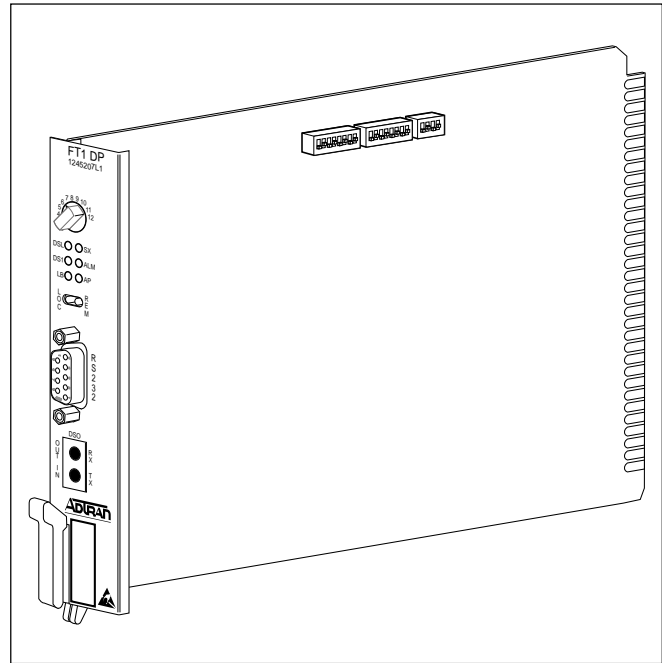

Figure 1. ADTRAN FT1 DP for Nortel DE-4E Shelf
This practice serves as an Installation and Maintenance guide for the ADTRAN Fractional T1 Dataport (FT1 DP). The ADTRAN FT1 DP (P/N 1245207L2) is the Central Office (CO) unit used to deploy a repeater-less FT1 circuit using 2-wire metallic facilities. The unit occupies one slot in a standard Nortel DE-4E (or equivalent) shelf. **Figure 1** is an illustration of the ADTRAN FT1 DP.